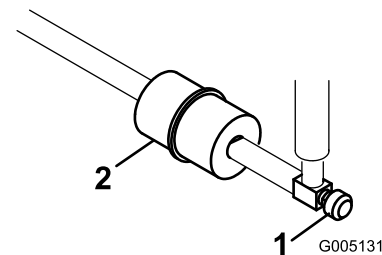

Figure 49
An in-line filter is incorporated into the fuel line between the fuel tank and carburetor (Figure 49). Replace the filter every 800 hours or sooner if the fuel flow is restricted. Be sure the arrow on the filter is pointing away from the fuel tank.
1. Close the fuel shut off valve, loosen the hose clamp on the carburetor side of filter, and remove the fuel line from the filter (Figure 49).
2. Place a drain pan under the filter, loosen the remaining hose clamp and remove the filter (Figure 49).